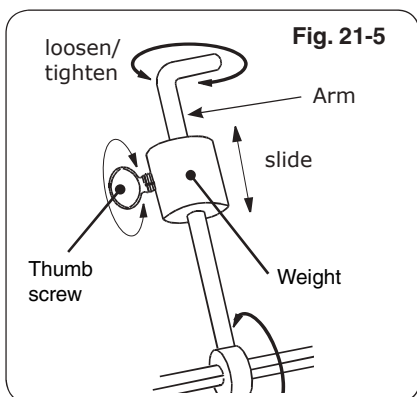

Fig. 21-5
9. Slide the counterbalance weight up or down the arm until the rod rotates most evenly then tighten thumb screw (Fig. 21-5 and Fig. 21-6).